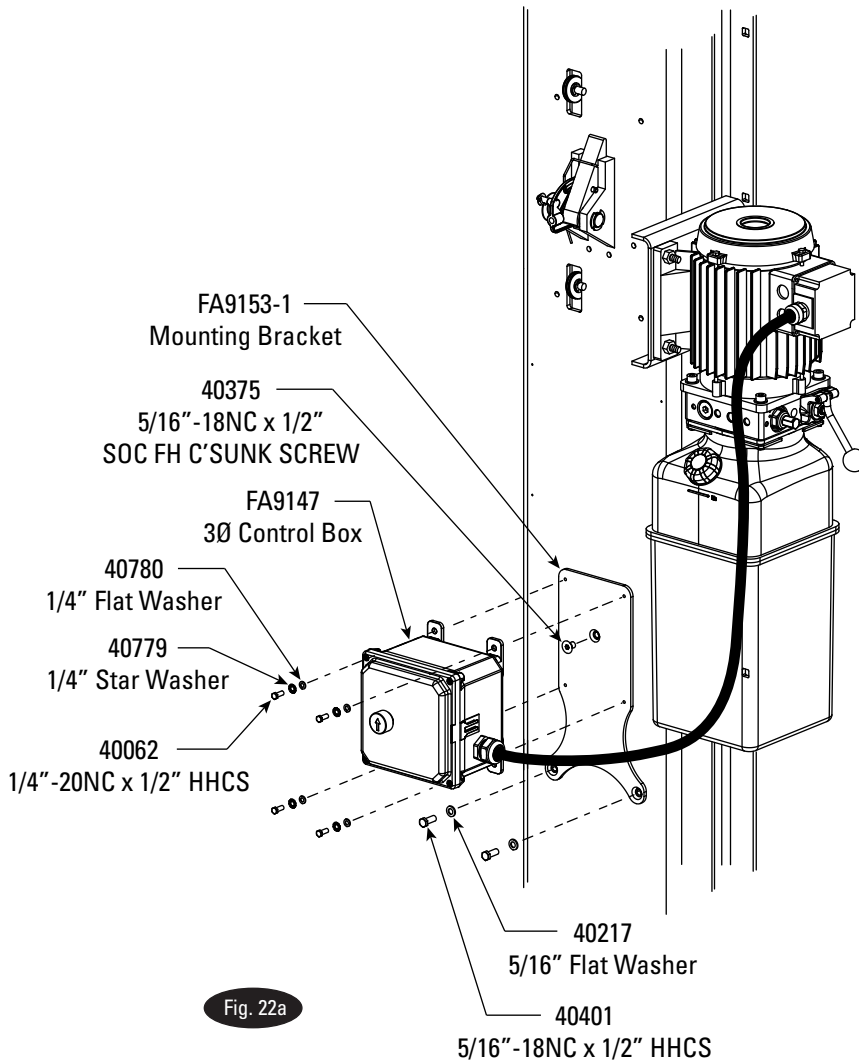

Fig. 22a
- A) Attach Mounting Bracket on column, as shown in Fig. 22a, using (1) 5/16"-18NC x 1/2" Socket Head Counter Sunk Machine Screw, (2) 5/16"-18NC x 1/2" HHCS, and (2) 5/16" Flat Washers.
- B) Attach Control Box to Bracket using (4) 1/4"-20NC x 1/2" HHCS, (4) 1/4" Flat Washers, and (4) 1/4" Star Washers.